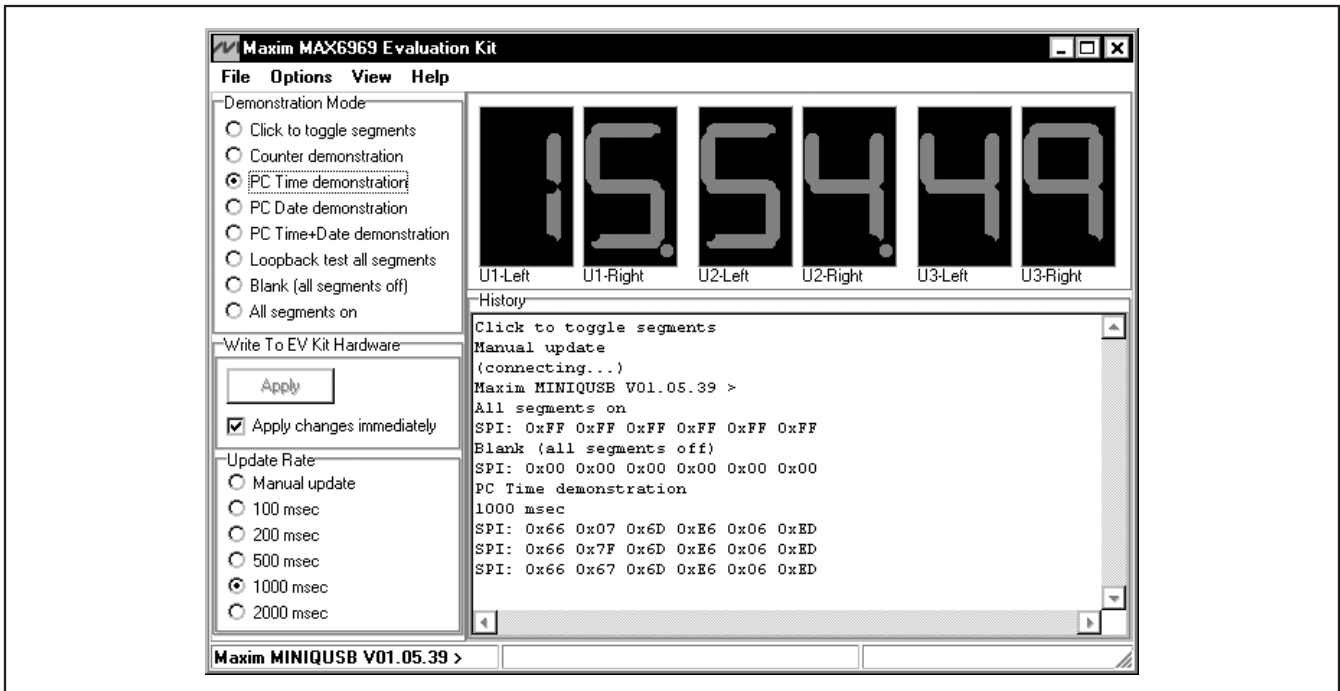

Figure 2. The MAX6969 EV Kit Software's PC Time Demonstration (displays the 24-hour time on the 7-segment display once every second)
- 10) In the **Demonstration Mode** group box, click on the **PC Time demonstration** radio button. The 7-segment LED will show the 24-hour time in hours, minutes, and seconds, as shown in Figure 2.